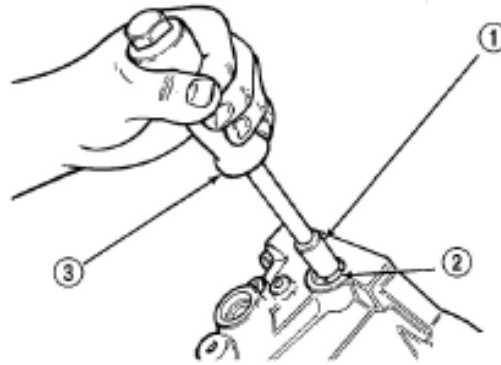

Figure 3-157 Disassembly of gearshift shaft bushing
- (1) Remove the gearshift shaft in proper process.
- (2) Screw instrument 6786 in bushing.
- (3) Mount the rolling weight 3752 on the instrument and remove bushing with rolling weight (Figure 3-157).